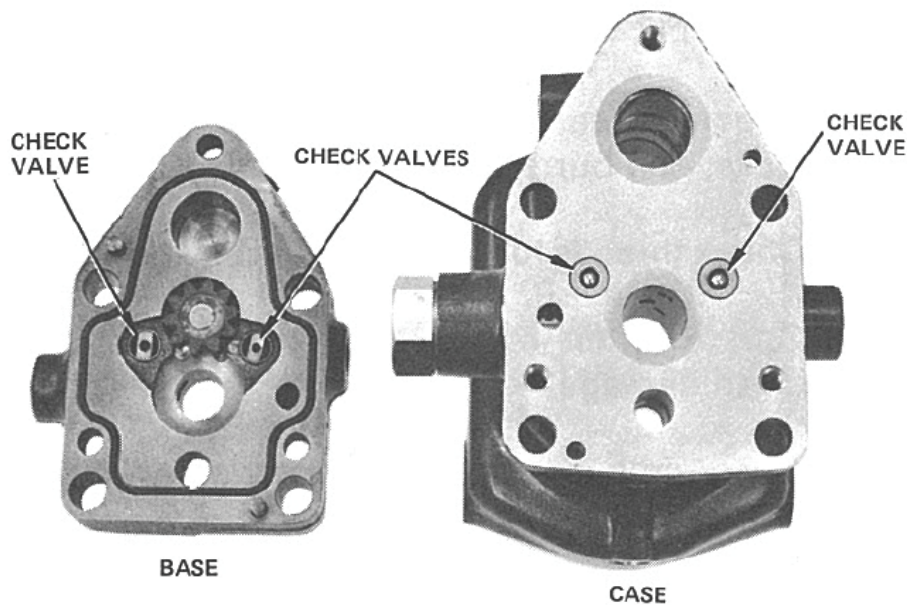

Figure 3-7. Check Valve Assembly
2. Seat new check valves in both base and case as shown in Figure 3-7. Use tool 8995-083 for seating valves in base.